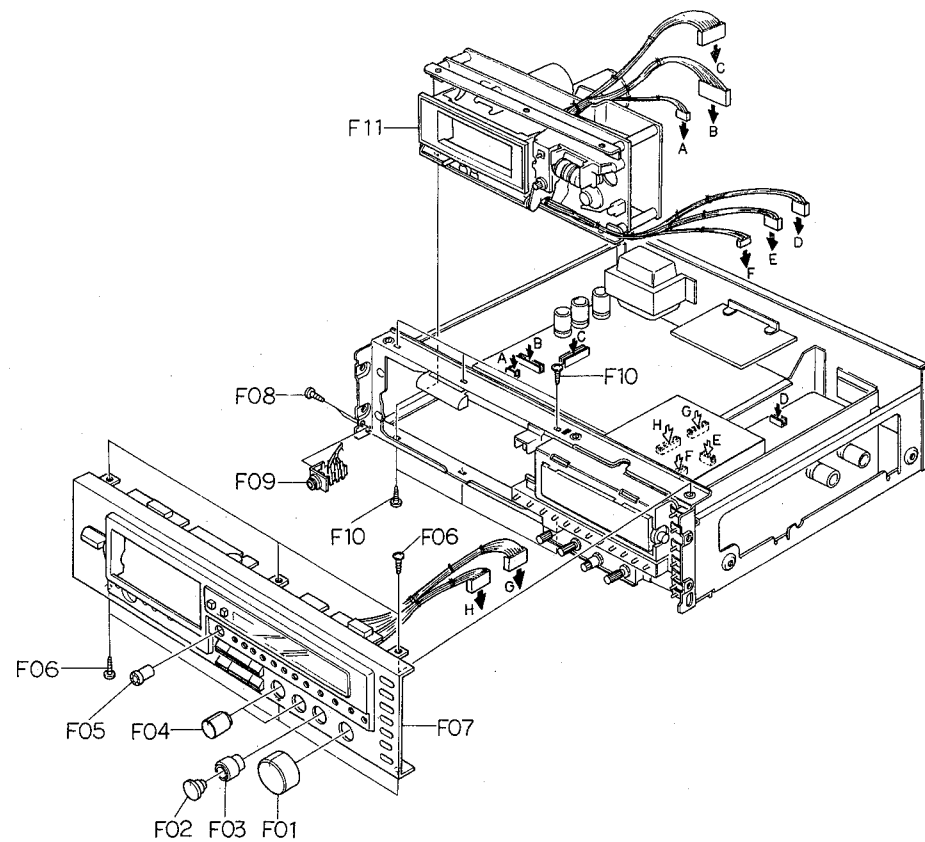

Fig. 3.2
Refer to Fig. 3.2.
- (1) Refer to Fig. 3.2. Remove Front Panel Ass'y referring to item 3.5.
- (2) Remove F01, then disassemble F02 (FL Indicator Ass'y including 3 connectors).
- (2) Remove 7 connectors and the wires connected by wrapping from F04 (Logic P.C.B. Ass'y).
- (3) Remove F03, then disassemble F04 (Logic P.C.B. Ass'y).
- (2) Pull out F05 (Function Switch Knob Ass'y).
- (3) Remove the Flat Cables, connector and wires connected by wrapping from F08 (Switch P.C.B. Ass'y).
- (4) Remove F06 and F07, then disassemble F08 (Switch P.C.B. Ass'y).
- (2) Remove F13, then disassemble F14 (Calibration Case Ass'y).
- (3) Remove F15, then disassemble F16 (Record Cal. P.C.B. A Ass'y),
- (4) Remove F17, then disassemble F18 (Record Cal. P.C.B. B Ass'y).
- (5) Remove F19, then disassemble F20 (Lamp P.C.B. A Ass'y).
- (2) Remove F21, then disassemble F22 (Power Switch Knob).
- (3) Remove F23, then disassemble F24 (Power Switch Holder Ass'y).
- (4) Remove F25, then disassemble F26 (Power Switch).
- (2) Remove F27, then disassemble F28 (Insulator) and F29 (Lamp P.C.B. B Ass'y).
- (3) Remove F30 (Lamp P.C.B. C Ass'y) by releasing the self-interlocking pin of the Reflector.
- (2) Remove F01, F02, F03 and F04, then disassemble F05 (Control Button Ass'y).
- (3) Remove F06, then disassemble F07 (Control Switch P.C.B. Ass'y).
- (1) Refer to Fig. 3.2. Remove Mechanism Ass'y referring to item 3.7.
- (2) Remove F01 and F02, then disassemble F03 (Cassette Case Holder L Ass'y) by releasing the self-interlocking pin of the Damper Lock Arm and F04 (Cassette Case Ass'y).
- (3) Remove F04, then disassemble F05 (Cover Plate Ass'y).
- (2) Remove F07, then disassemble F08 (Tape Counter Ass'y).
- (3) Remove F09, then disassemble F10 (Pitch Control Holder Ass'y).
- (4) Remove F11, then disassemble F12 (Memory Switch).
- (5) Remove F13, then disassemble F14 (Pitch Control Volume).
- (2) Remove F01 and F02, then disassemble F03 (Flywheel Holder Ass'y) and F08 (Capstan Belt).
- (3) Remove F04, then disassemble F05 (Capstan Motor Ass'y).
- (4) Remove F06, then disassemble F07 (Speed Cal. P.C.B. Ass'y).
- (5) Remove F09 (Supply Flywheel Ass'y), then disassemble F10 (Take-up Flywheel Ass'y).